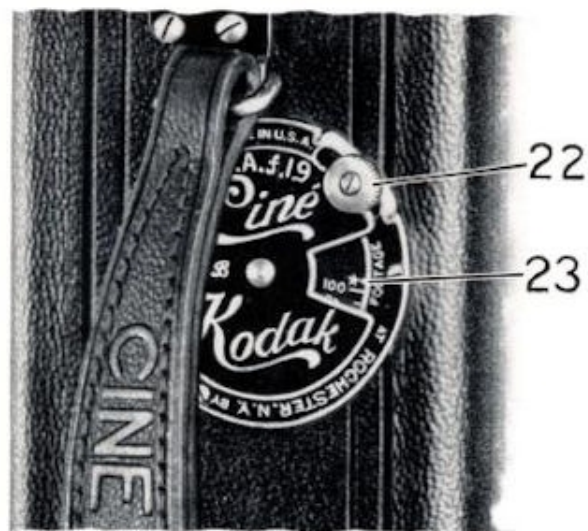

Fig. 14.
23 Pointer	Indicates how much film remains in camera, Fig. 14, page 18.
The footage indicator, Fig. 14, automatically gives the number of feet of unexposed film there is in the camera. It must be adjusted for each roll of film.
To start the motor after the spring is wound, press the exposure lever 25, Fig. 15, page 19, about half way. To stop the motor release the pressure. Let the motor run until the 100 mark on the footage indicator (50 if a fifty-foot roll of film is used) moves to the pointer 23, Fig. 14, page 18. The camera is now ready for making pictures.
**Caution:** Before removing the cover to unload the camera, after exposing the entire length of film, run the motor until the pointer 23 on the footage indicator (Fig. 14, page 18) is at the line marked with a dot, following the scale. This is necessary so that the exposed film on the take-up spool will be covered by the protecting end. This end is similar to the leader at the other end of the film and enables the camera to be unloaded in daylight. Do not run the motor after all of the film and protecting end are on the take-up spool.